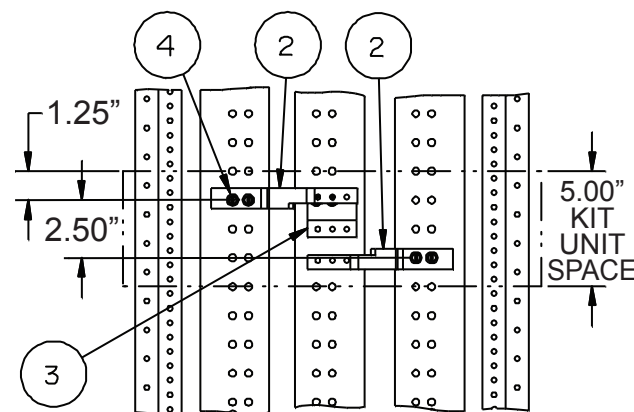

Figure 4
3. Refer to Figure 2: To mount a QR breaker, 5" of empty unit space is required. To locate the mounting position, measure from the top deadfront support to the top of the empty unit space filler on the deadfront. Transfer this dimension from the deadfront support along the Z-rail and mark. This will be the unit space as shown on Figure 4. After marking the Z-rail, remove the deadfront.
5. Refer to Figure 4: The first items to be installed are the line straps (Items 2 & 3). Locate the two 0.228" diameter holes on the B-phase of the section bus 1-1/4" down from the top of the 5.0" unit space selected. Insert two 1/4"-20 thread-forming screws (Item 4\*) through the 2 holes in the B Strap (Item 3) and then into the 0.228" diameter holes on the B-phase bus and tighten. Repeat this step to install the A-phase strap (Item 2) onto the A-phase bus. To install the C-phase strap (Item 2), locate two 0.228" diameter holes on the C-phase bus 2.50" below the mounting screws of the A-phase and B-phase straps. Insert two more of the 1/4"-20 thread-forming screws (Item 4\*) through the two holes in the strap and then into the 0.228" diameter holes in the C-phase section bus. Torque all screws to the values specified on the rear of the deadfront (or in the table above).